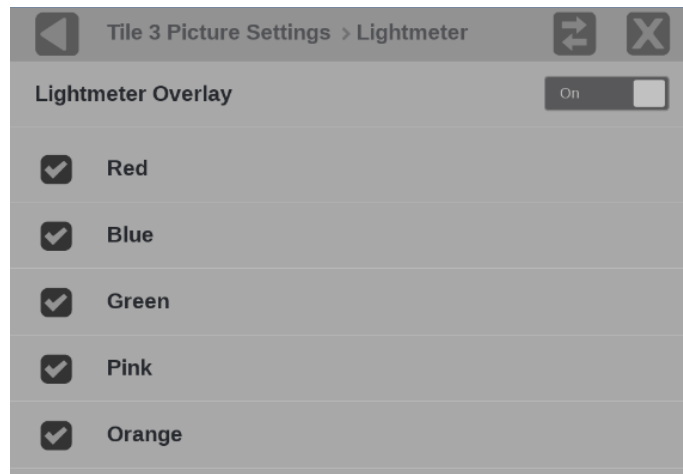

Figure 120: Lightmeter overlay menu and available cursors
3. Select the number of needed Lightmeter cursors (up to 5). (See Figure 120.)